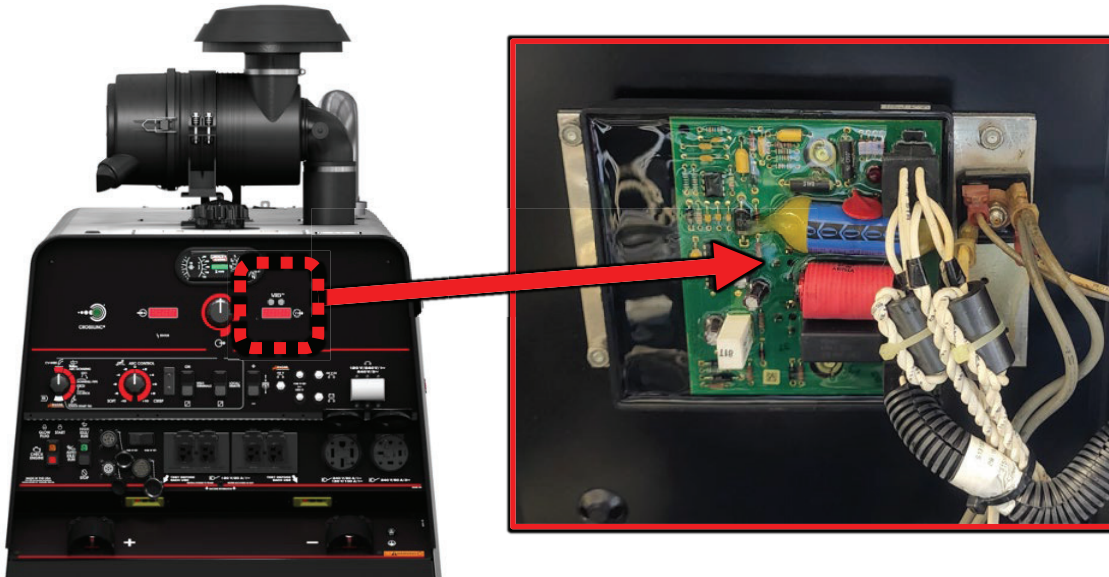

Figure F.1
1. For location of the 40VDC Bus Board refer to Figure F.1.